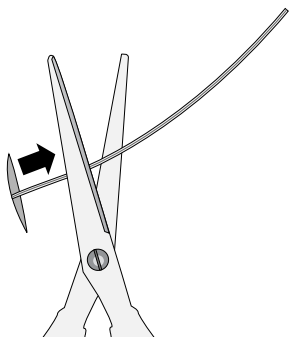

Figure 3. Withdraw the external segment of the percutaneous extension.
1. Withdraw the external segment of the percutaneous extension approximately 1 cm (0.4 in.) from where it exits the skin (Figure 3).